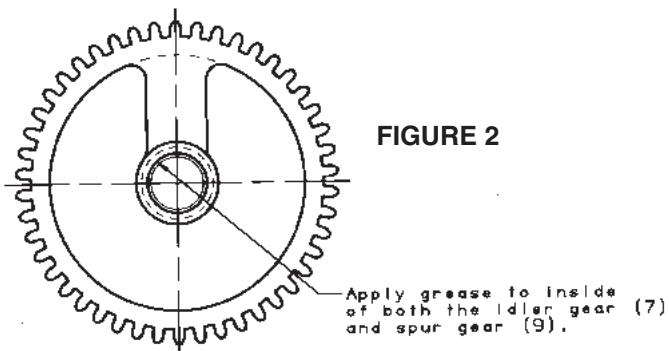
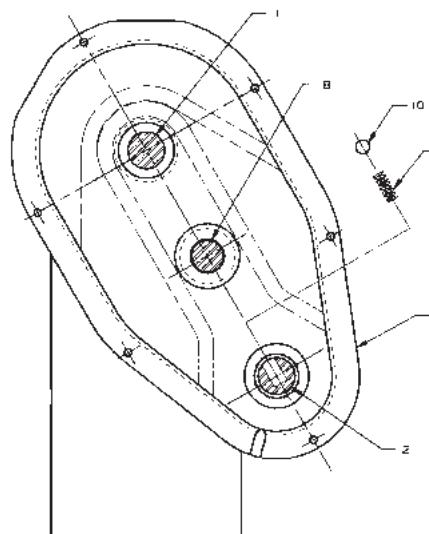
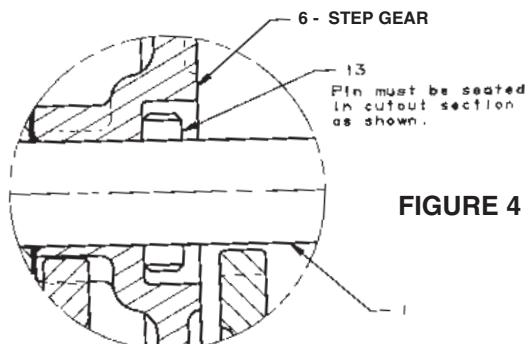

FIGURE 2
FIGURE 3
FIGURE 4
1. The gears and idler shaft must be coated with a permanent type grease in order to obtain successful operation. Special care should be taken to assure that the inside bore of both gears is covered with a light coating of grease (see figure 2).
2. Slide idler gear shaft (8) into the center bushing (14) of the upper leg gearbox housing (15). Slide spur gear (9) on idler gear shaft (8).
3. If the ball (10) and spring (11) became dislodged from the shift lock bearing (12) during disassembly, the following steps should be followed to reassemble.
- A. Rotate and slide crank shaft (2) out until the ball spring hole in the shaft is adjacent to the bushing and oriented with the hole in line with the centers of the other two shafts (1) and (8). (See figure 3).
- B. Insert spring (11) followed by the ball (10). Compress the ball and spring using your thumb and attempt to push the crank shaft (2) in with the other hand, thus capturing the ball and spring under the shift lock bearing.
- C. Push crank shaft (2) in until the shifter gear is engaged in low gear.
4. Slide step gear (6) onto drive shaft (1). Be sure that the pin (13) is seated in the cut out portion of the step gear as shown in figure 4.
5. Slide idler gear (7) onto idler shaft (8) with the shoulder of gear to the inside.
7. Replace gearbox cover (3) and assemble with thread rolling screws (4).